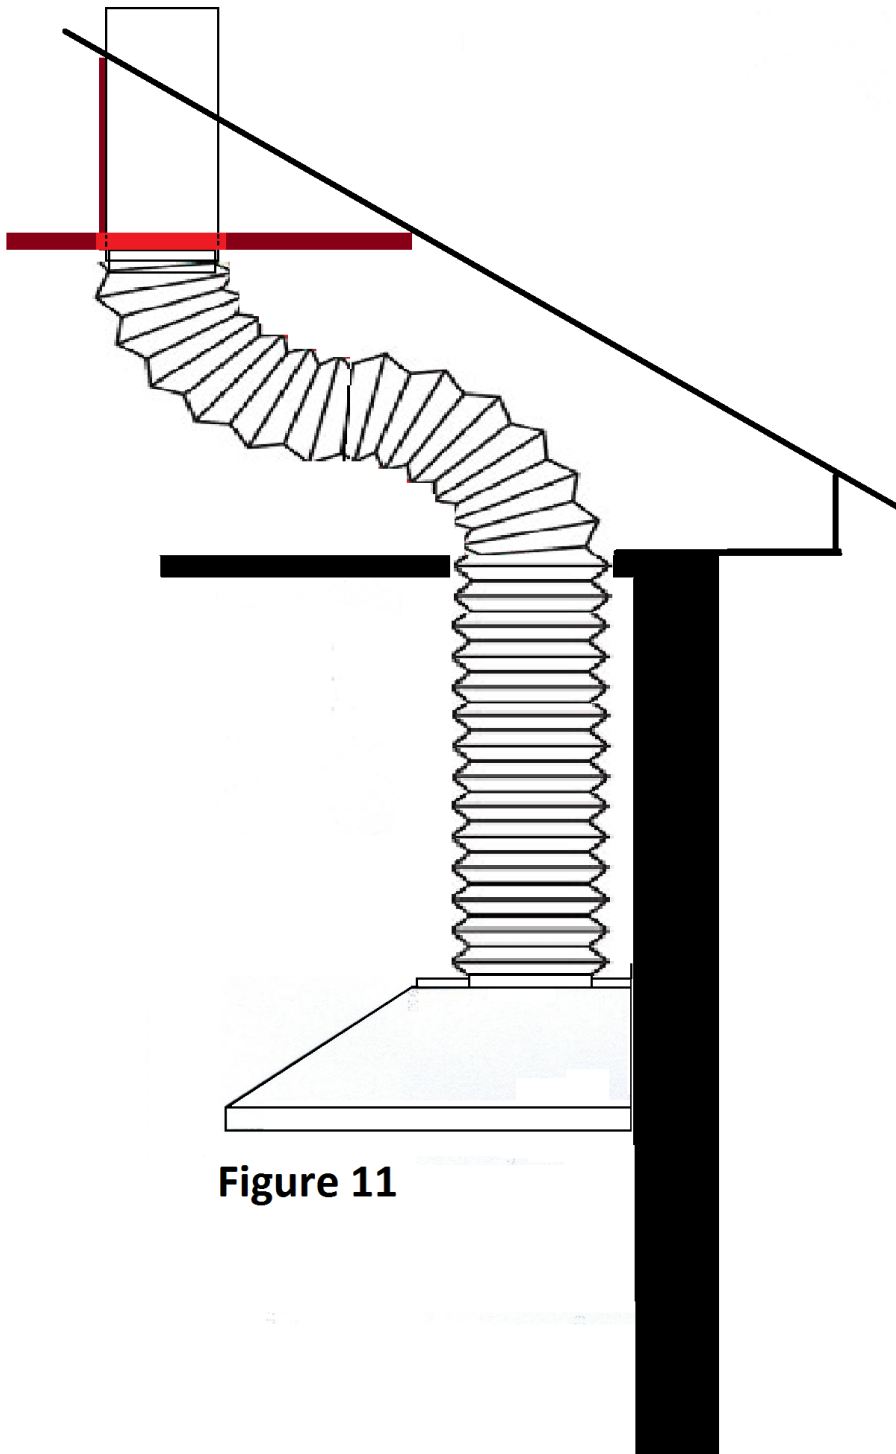

Figure 11
If you need to install the flexible duct with a bend do not make the bend too sharp as this can restrict airflow see figure 11 as an example for correct instalment of bend
Step 12: install the motor to the ducting. Slid the flange of the motor to the outside of the ducting and level the unit. Once level screw to the ducting. See figure 11